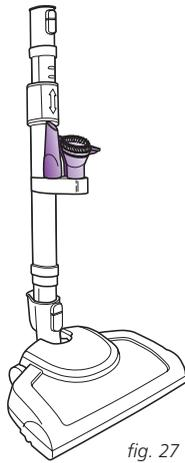

fig. 27
- 4 Store the telescopic tube attached to the motorized power nozzle in the upright position with the accessories on the holder. (Fig. 27)